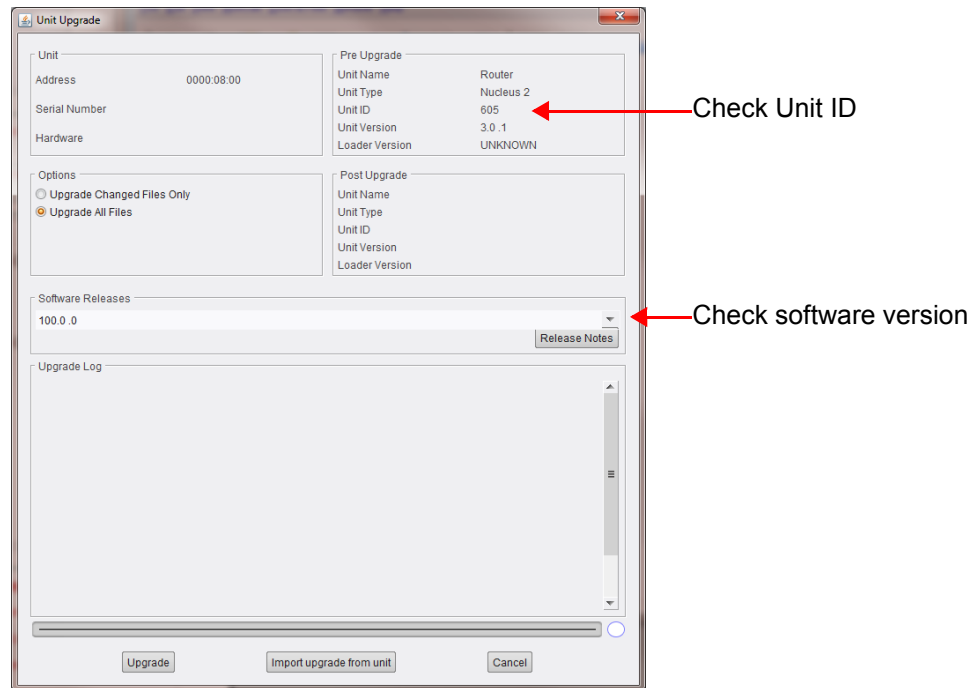

Figure 79 Controller Unit Upgrade Screen
6. Click on the **Software Releases** drop-down list and select the required upgrade package (Figure 79).
Note: Check the Unit ID and the selected software version (Figure 79) match those noted in step 12. on page 114.